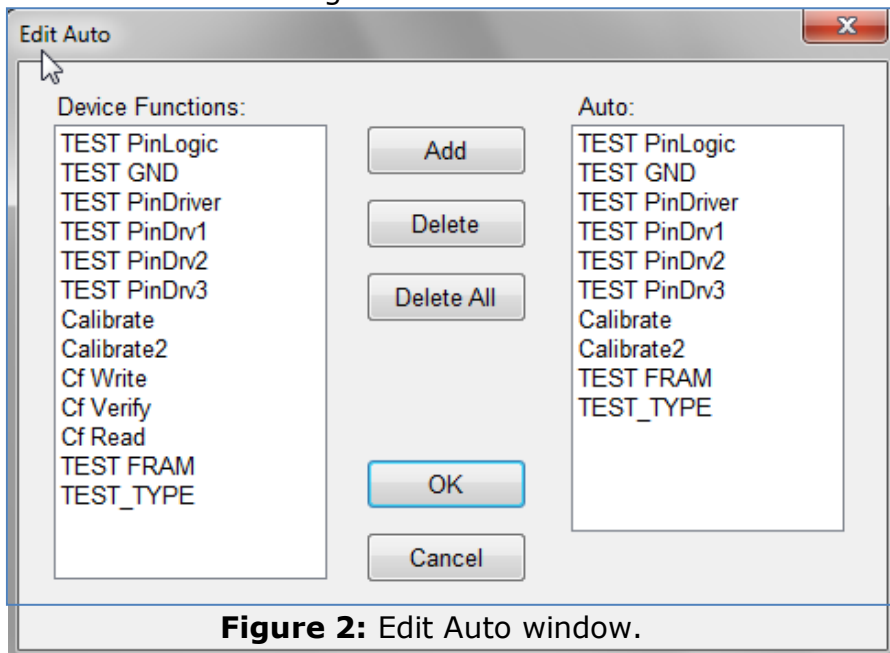

Figure 2: Edit Auto window.
- 4) Modify "**Edit Auto**" as shown in Figure 2.